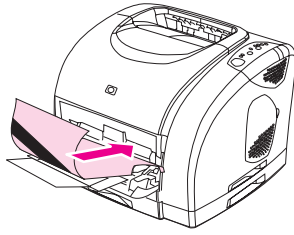

Figure 3-3. Loading the cleaning page in tray 1
5. Remove the page that printed and load it face-down into tray 1 (see Figure 3-3. Loading the cleaning page in tray 1).